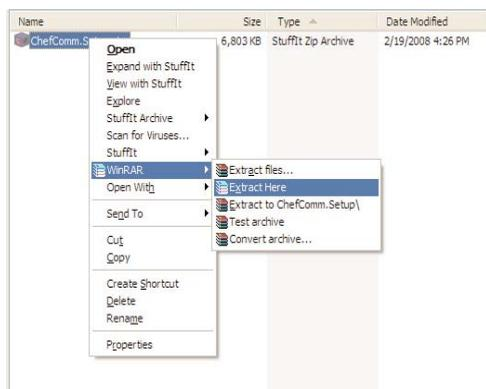

Figure 1: Extracting the Zipped Files
3. Right-click the file for expansion options (Figure 1) or use your preferred application.